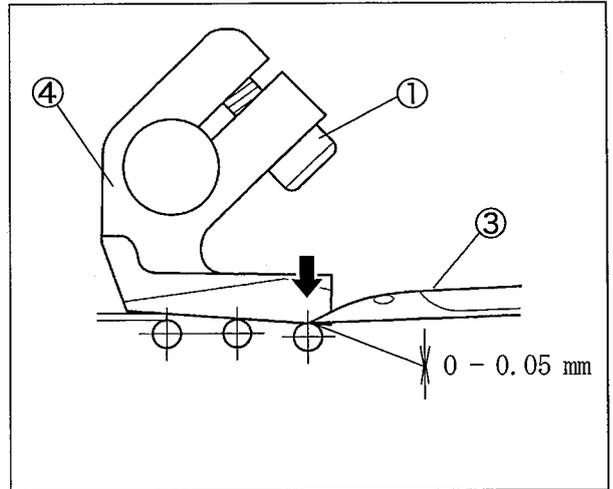

Fig. 6-19
- (1) When the looper ③ moves from the right to the left, and the looper ③ tip meets the right needle, let the needle guard(rear) ④ push the right needle to make the clearance between them to 0 - 0.05 mm. (Fig. 6-19)